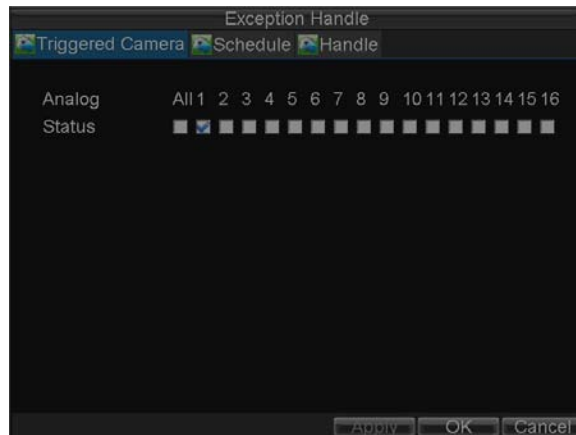

Figure 10. Triggered Camera Menu
6. Select cameras to trigger for recording when alarm occurs by checking the checkboxes under the desired cameras, as shown in Figure 10.